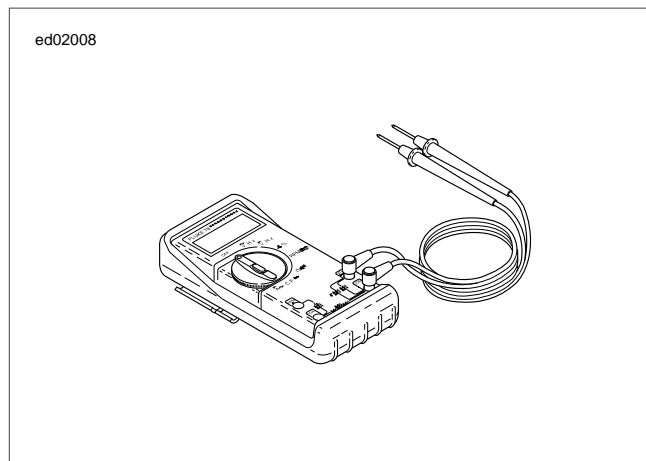

Figure 2-12. Fluke 78 Multimeter (DVOM) (Part No. HD-39978)
1. See Figure 2-12. Connect DVOM (Part No. HD-39978) to wiring harness between the suspect connections. When diagnosing Electronic Control Module (ECM) connections, a BREAKOUT BOX (Part No. B-48115) may be used to simplify the procedure. See 2.6 BREAKOUT BOX.